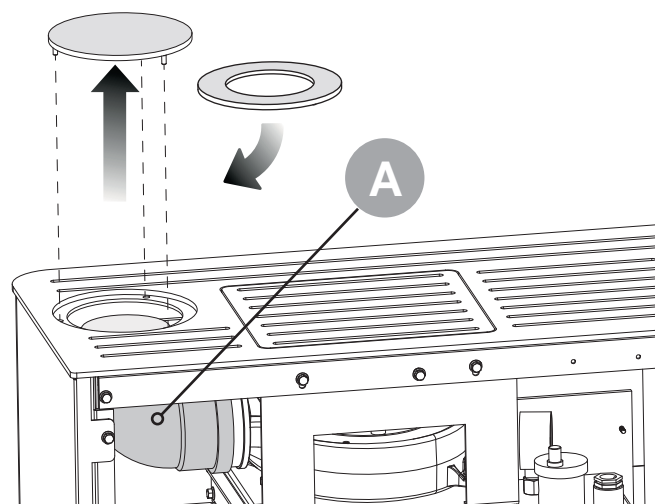

fig. 5.11
5.7.3 Connection to the smoke outlet (fig 5.11)
It is possible to connect the stove to the flue system, rear or top, by simply rotating the output bend (fig. 5.11 -A-). Fix the smoke outlet to the fan with a screw (5.13 r/s).